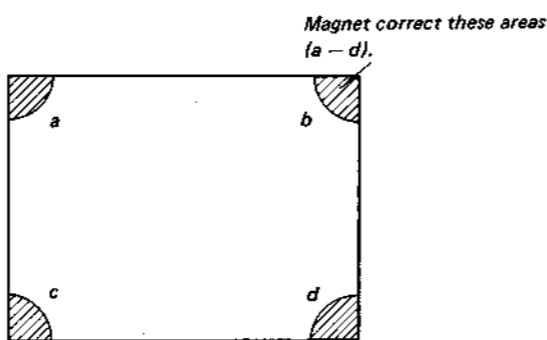

Fig. 3-4.
- 1) Stick the magnet from the funnel side to the deflection yoke surrounding where mislanding arises as shown in Figs 3-4. and 3-5.